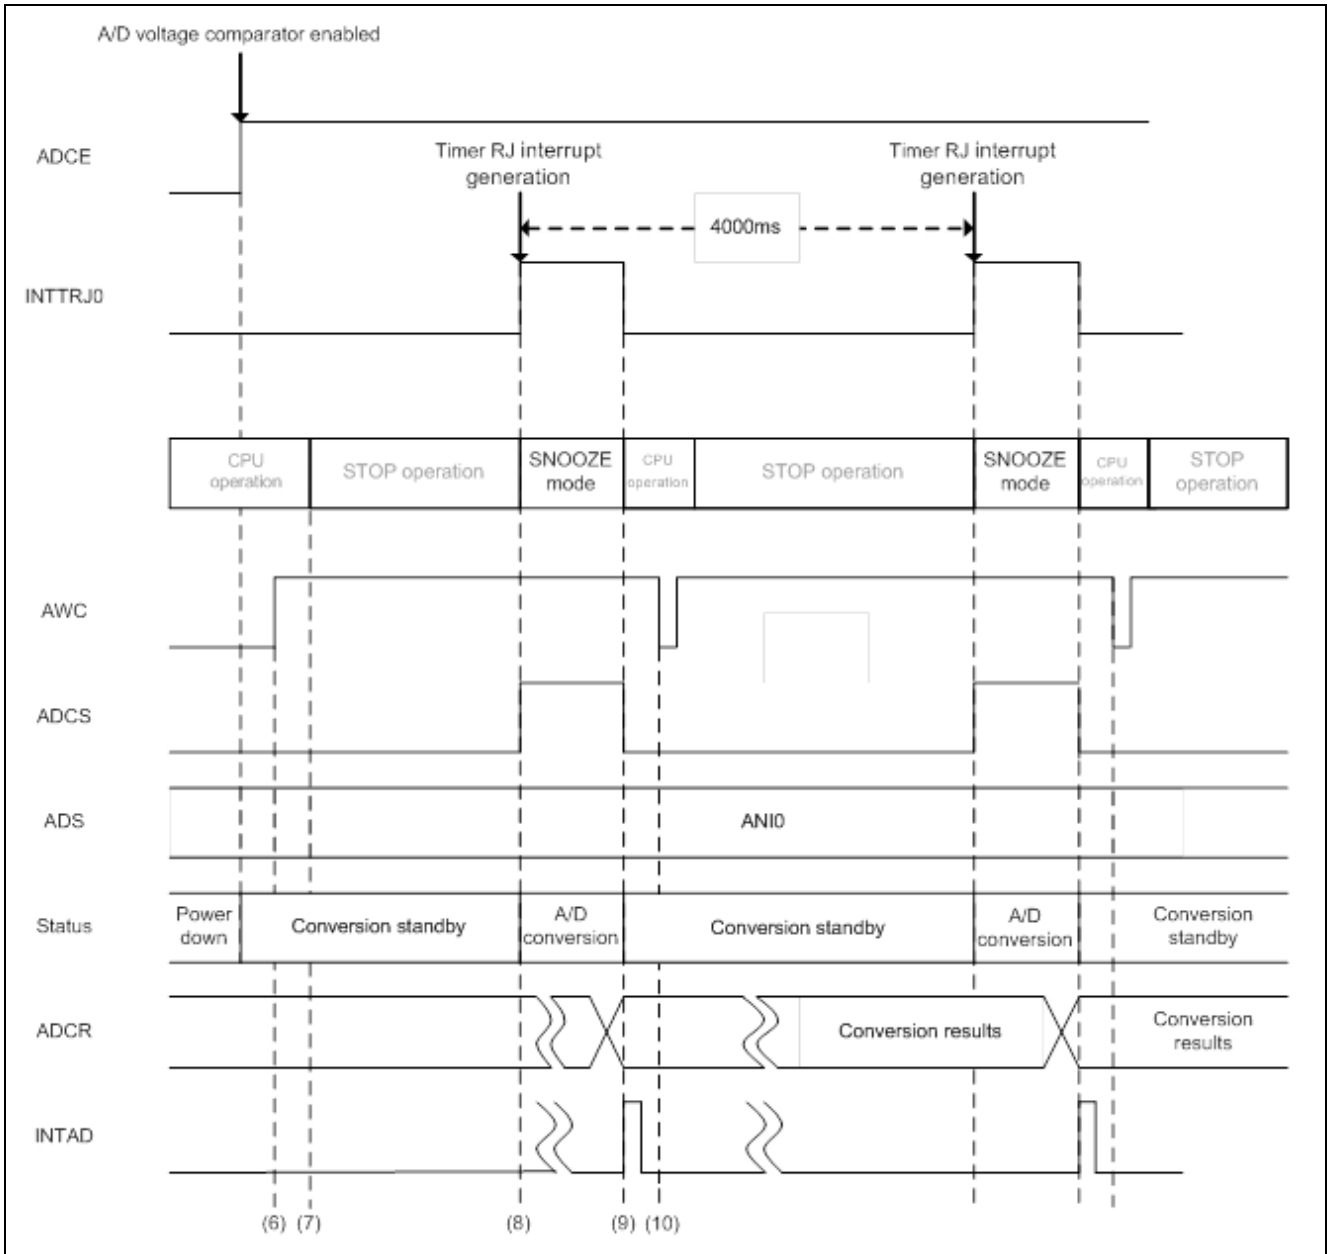

Figure 1.1 A/D Converter SNOOZE Operation Outline
Table 1.1 shows peripheral functions and their applications, and Figure 1.1 shows the A/D converter operation outline (SNOOZE mode). In addition, the number at the bottom of Fig. 1.1 shows the processing number in “5.1 Operation Outline”.
Remark: Refer to “5.1 Operation Outline” for (6) to (10) in the figure 1.1.
In addition, the timing by which the following processing is performed is specified in Fig. 1.1 lower part.